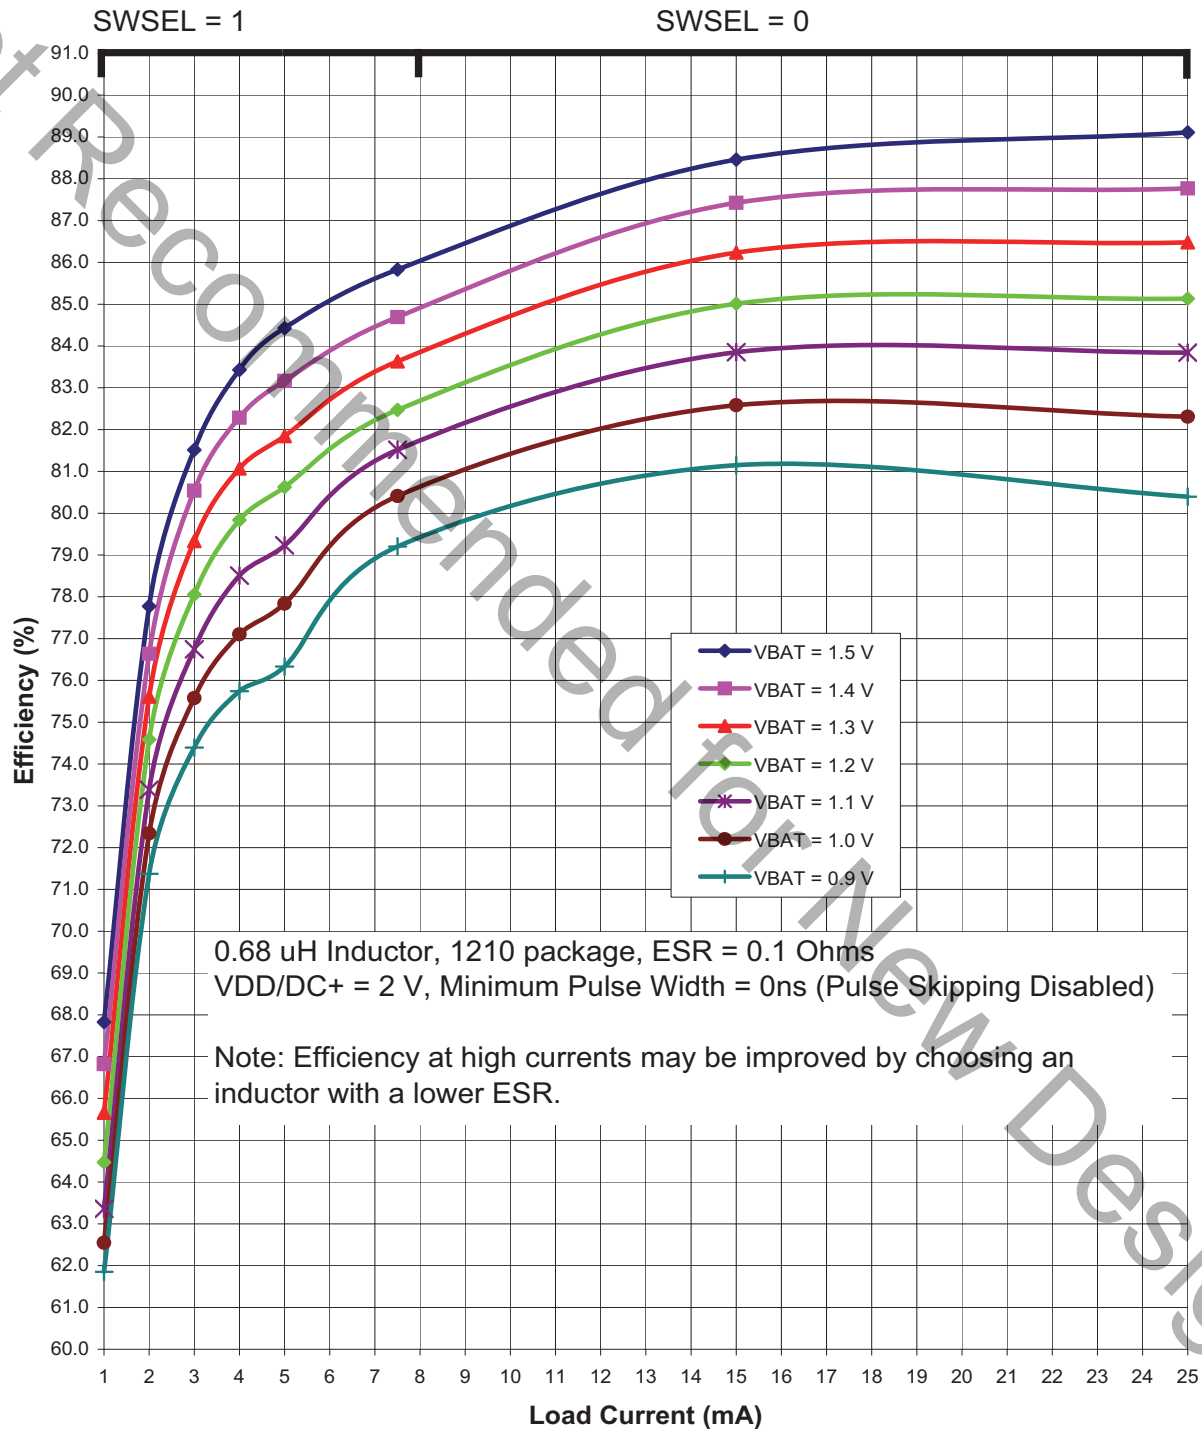
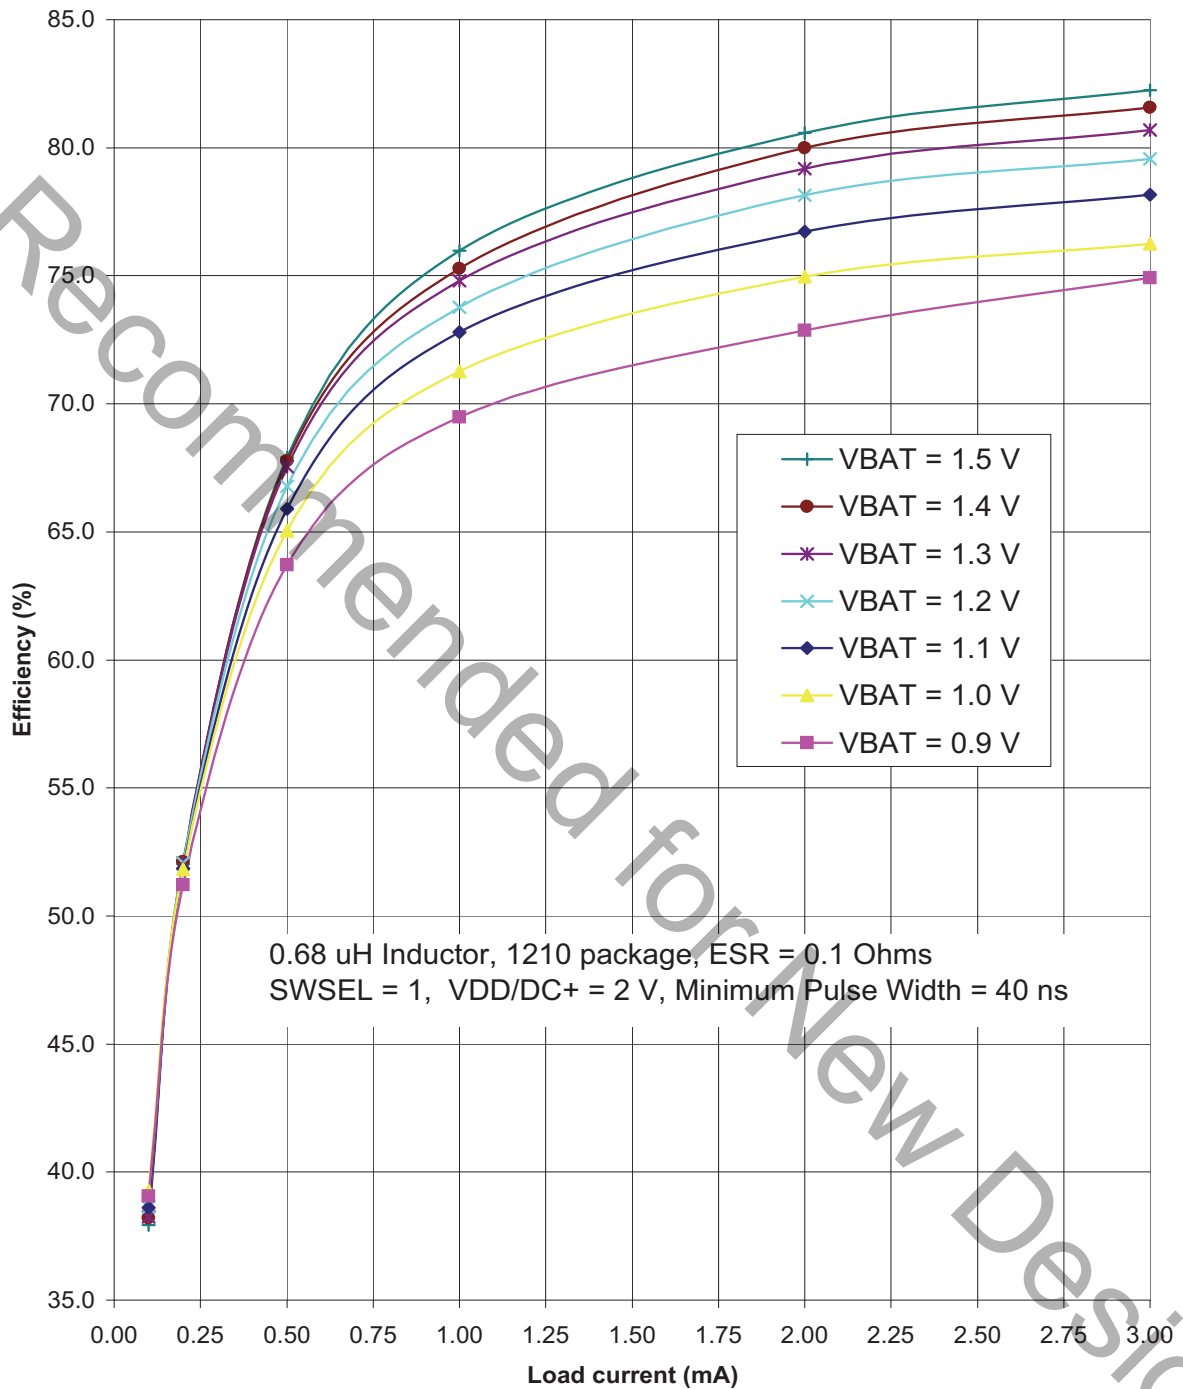

Figure 4.3. Typical DC-DC Converter Efficiency (High Current, VDD/DC+ = 2 V)
Figure 4.5. Typical DC-DC Converter Efficiency (Low Current, VDD/DC+ = 2 V)
<ol style="list-style-type: none"> 1. Based on device characterization data; Not production tested. 2. SYSCLK must be at least 32 kHz to enable debugging. 3. Digital Supply Current depends upon the particular code being executed. The values in this table are obtained with the CPU executing an "sjmp \$" loop, which is the compiled form of a while(1) loop in C. One iteration requires 3 CPU clock cycles, and the Flash memory is read on each cycle. The supply current will vary slightly based on the physical location of the sjmp instruction and the number of Flash address lines that toggle as a result. In the worst case, current can increase by up to 30% if the sjmp loop straddles a 64-byte Flash address boundary (e.g., 0x007F to 0x0080). Real-world code with larger loops and longer linear sequences will have few transitions across the 64-byte address boundaries. 4. Includes oscillator and regulator supply current. 5. IDD can be estimated for frequencies ≤ 14 MHz by simply multiplying the frequency of interest by the frequency sensitivity number for that range, then adding an offset of 90 μA. When using these numbers to estimate I_{DD} for >14 MHz, the estimate should be the current at 25 MHz minus the difference in current indicated by the frequency sensitivity number. For example: $V_{DD} = 3.0$ V; $F = 20$ MHz, $I_{DD} = 4$ mA – $(25 \text{ MHz} - 20 \text{ MHz}) \times 0.102 \text{ mA/MHz} = 3.5$ mA assuming the same oscillator setting. 6. The supply current specifications in Table 4.2 are for two cell mode. The VBAT current in one-cell mode can be estimated using the following equation: $\text{VBAT Current (one-cell mode)} = \frac{\text{Supply Voltage} \times \text{Supply Current (two-cell mode)}}{\text{DC-DC Converter Efficiency} \times \text{VBAT Voltage}}$ <p>The VBAT Voltage is the voltage at the VBAT pin, typically 0.9 to 1.8 V. The Supply Current (two-cell mode) is the data sheet specification for supply current. The Supply Voltage is the voltage at the VDD/DC+ pin, typically 1.8 to 3.3 V (default = 1.9 V). The DC-DC Converter Efficiency can be estimated using Figure 4.3–Figure 4.5.</p> 7. Idle IDD can be estimated by taking the current at 25 MHz minus the difference in current indicated by the frequency sensitivity number. For example: $V_{DD} = 3.0$ V; $F = 5$ MHz, Idle $I_{DD} = 2.1$ mA – $(25 \text{ MHz} - 5 \text{ MHz}) \times 0.079 \text{ mA/MHz} = 0.52$ mA.